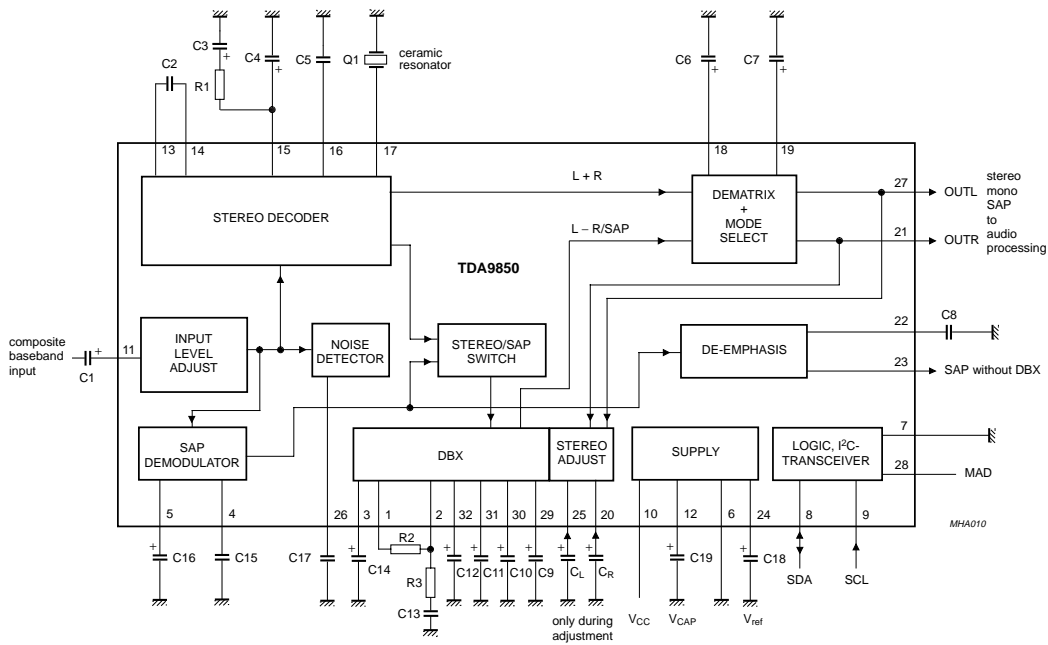

Fig.1 Block, application and test diagram.
**COMPONENT LIST**Electrolytic capacitors  $\pm 20\%$ ; foil capacitors  $\pm 10\%$ ; resistors  $\pm 5\%$ ; unless otherwise specified; see Fig.1.